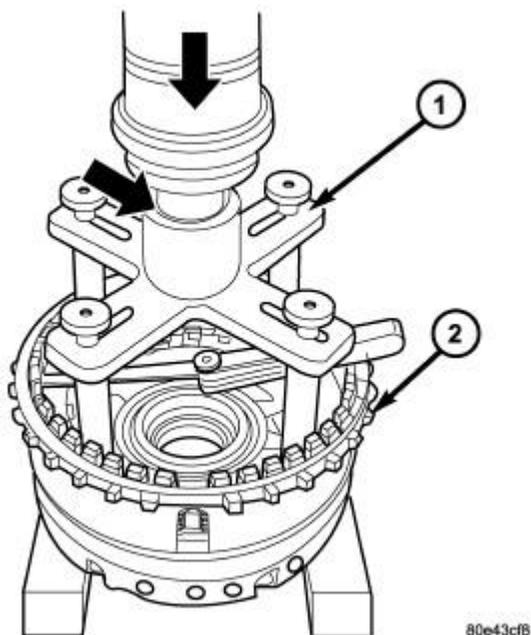

Fig. 125: Measuring B2 Clutch Clearance
10. Measure the B2 clutch pack clearance by mounting the Pressing Tool 8901A (1) on outer multiple disc. Refer to **Fig. 125**.